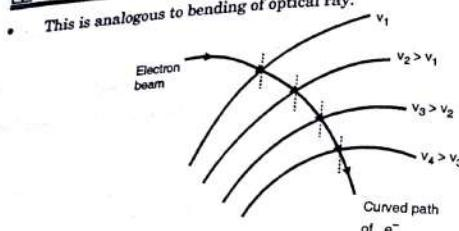

Fig. 7.9.1 : Curved path of electron beam
- If we take a non uniform electric field represented by more than one equipotential surfaces separating equipotential regions of potentials $V_1, V_2, V_3, V_4 \dots$ etc. as shown in Fig. 7.9.1, a curved path of electron motion can be observed.